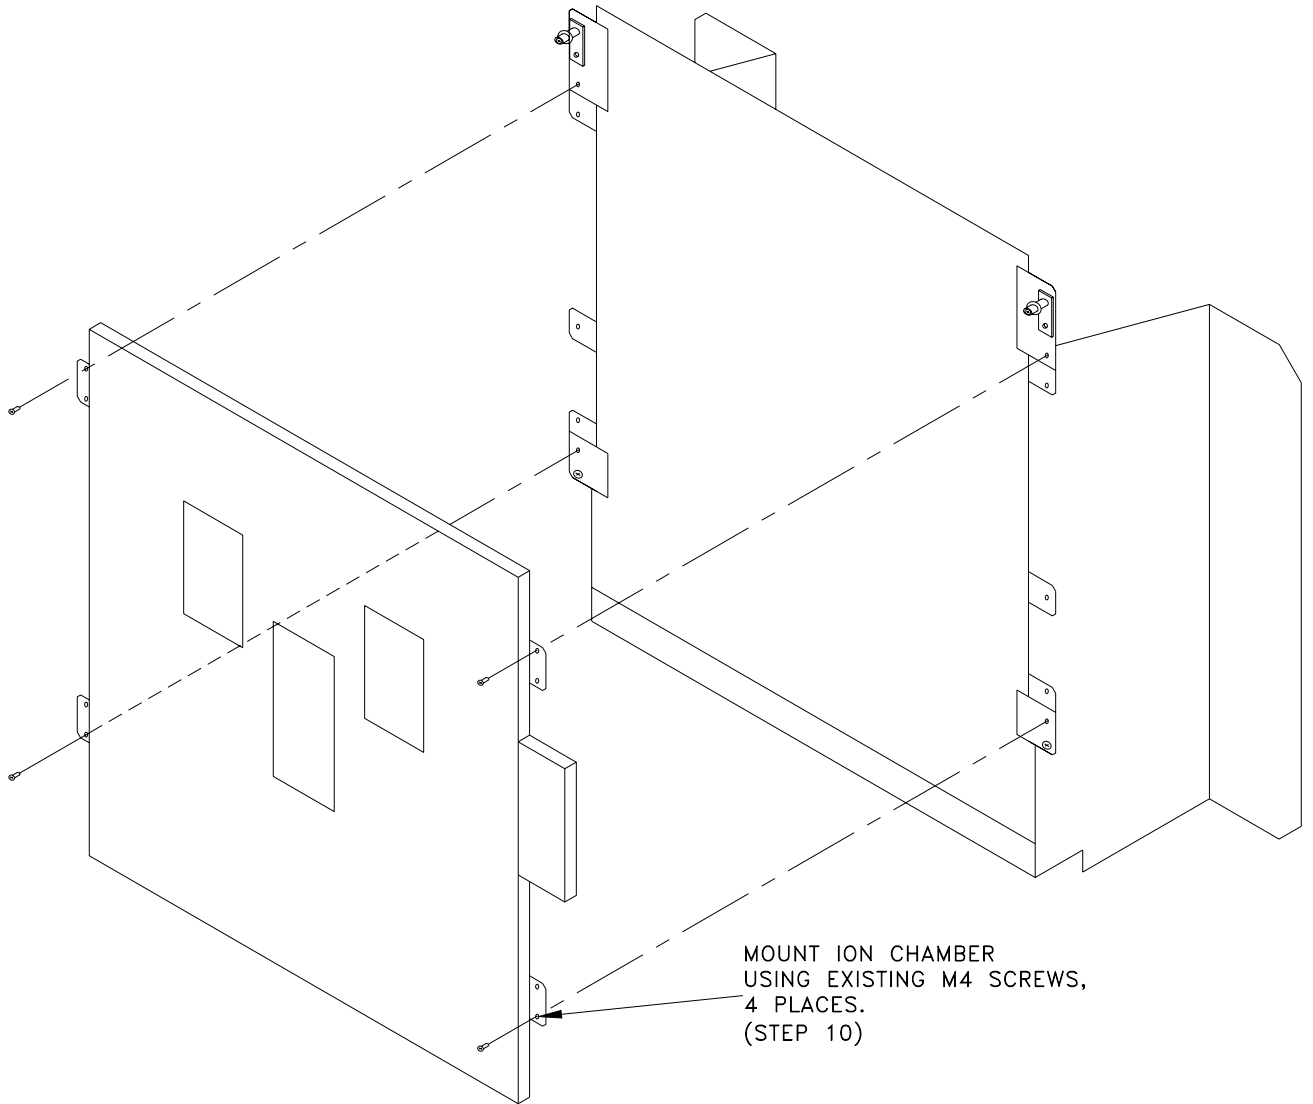

Figure 4
11. Reinstall the grid assembly using the POM bushings and M3 screws from Step 2. Make certain the POM bushings sit upon the grid mounting spacer plates added in Step 5. Also, check to see that the grid sensor flag moves without obstruction through the grid sensor. Make certain that the grid moves freely back and forth before turning on the system power. See Figure 4.
12. Mount the pre-amplifier assembly as shown using the two (2) M4 X6 screws, provided. See Figure 4.